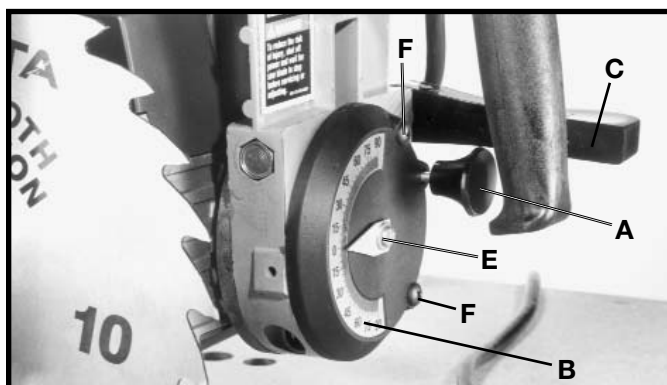
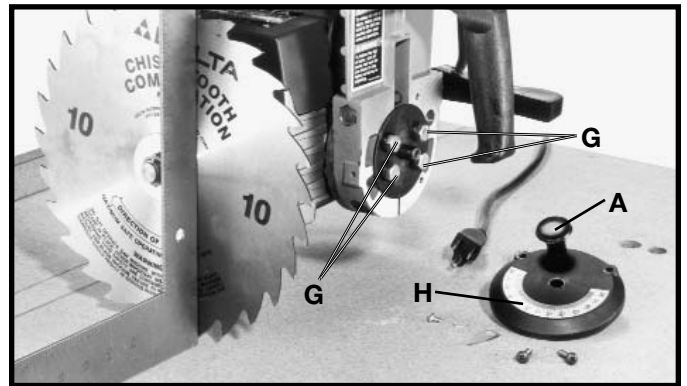

Fig. 40
Fig. 42
4. Make certain the bevel index knob (A) Fig. 40, is engaged and the motor is in a horizontal position. Tighten bevel clamp handle (C).
6. If an adjustment is necessary, make certain bevel clamp lever (C) Fig. 40, is tight. Remove screw, flat washer, and pointer (E) Fig. 40. Remove two screws (F) Fig. 40, and bevel scale plate (H) Fig. 42, with index knob (A).
7. Loosen four hex head screws (G) Fig. 42. Tilt the motor until the saw blade is flush with the square. Tighten four hex head screws (G).
8. Replace bevel scale plate (H) Fig. 42, with bevel index release knob (A), two screws, and pointer that were removed in **STEP 6**. **NOTE: Adjust pointer to “zero” on the bevel index scale.**